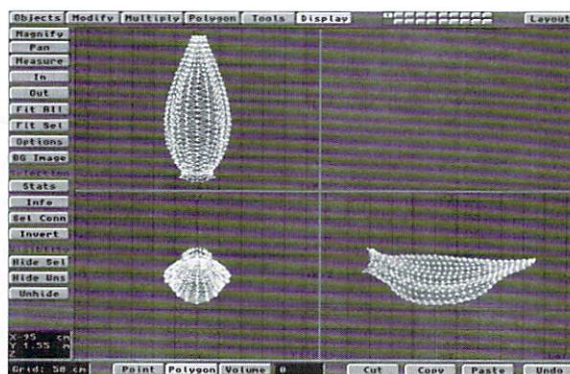

Figure 3: The finished body.
•You should now have something similar to the bird body shown in Figure 3. If the back end polygon ends up distorted by the extrusion process (as it did in mine), you can fix it by using Set Value (Tools panel). Simply find the Z value of one of the points and type this into the Set Value (Tools panel) requester and select the Z plane, and hit OK. Then use the Rotate (Modify panel) tool in the left view to angle them to 45 degrees. Triple (Polygon panel) all of the polygons except for the original disc at the front of the body.